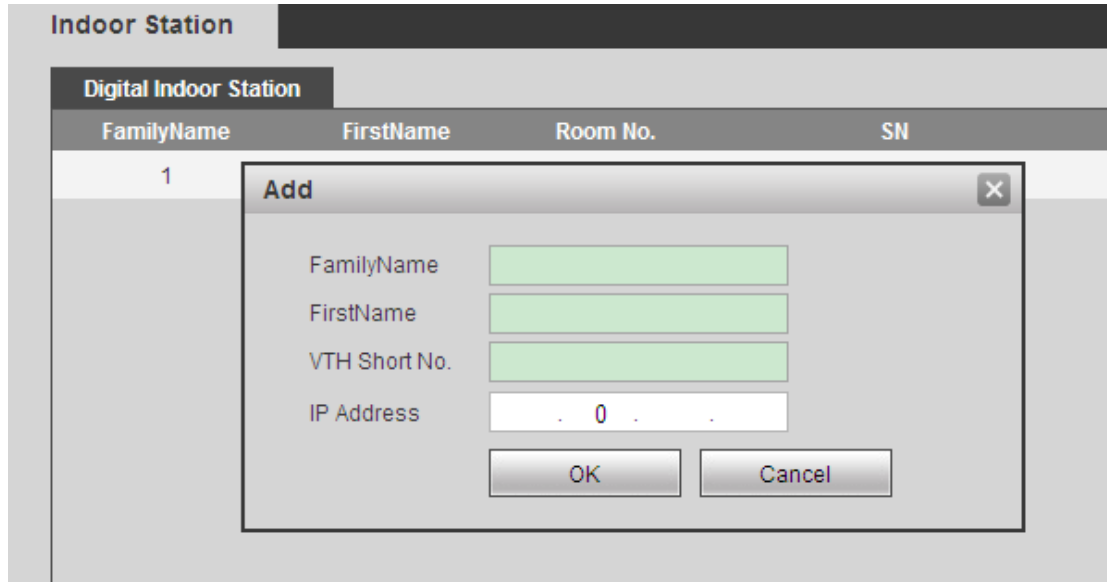

Figure 4- 7
Step 3. In LAN Config interface, check Group Call, and click on OK. See Figure 4- 8.